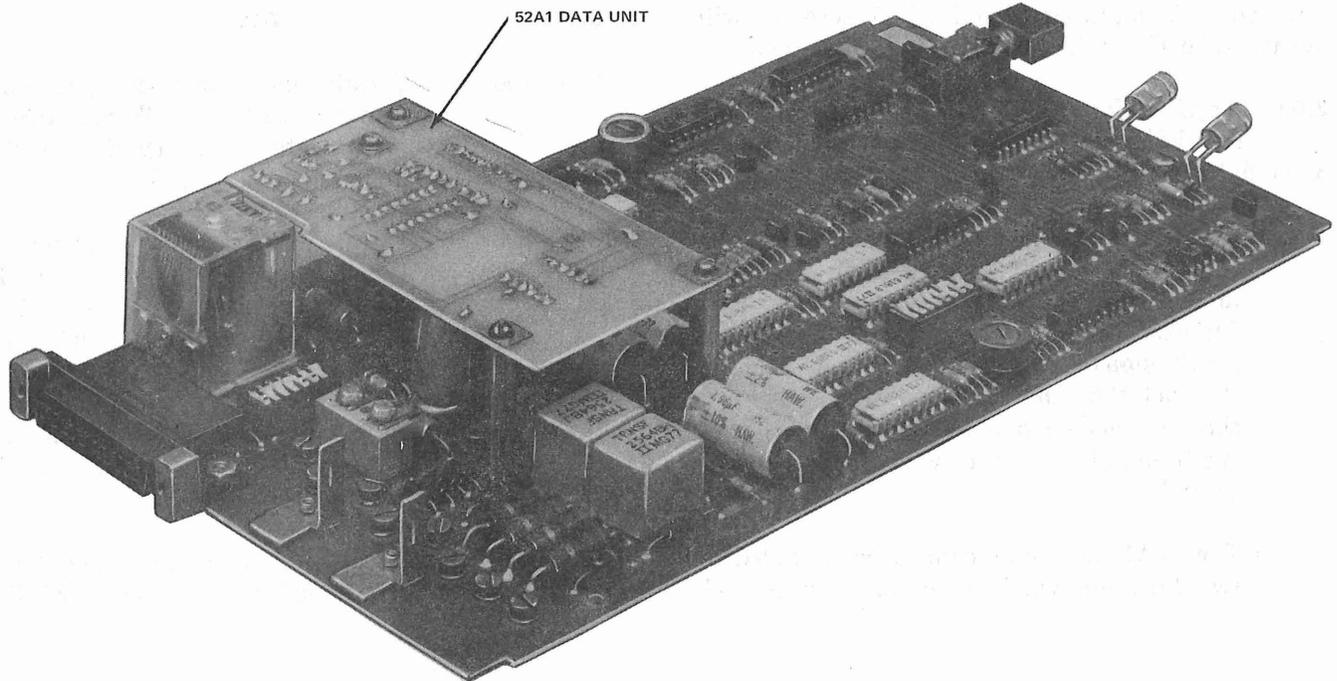

Fig. 1—52A1 Data Unit Mounted on Data Set 108F
- 1.01** This section provides an identification and a general description of the 52A1 data unit (Fig. 1).